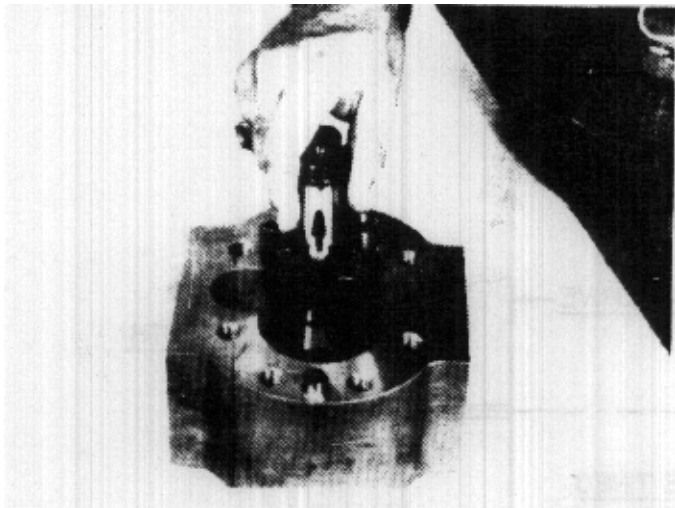

FIGURE 56
26. Install the drive gear and idler gear. The drive gear should be in the bore nearest the identifying mark made in Step 2, with the splined end up. (Figure 56)